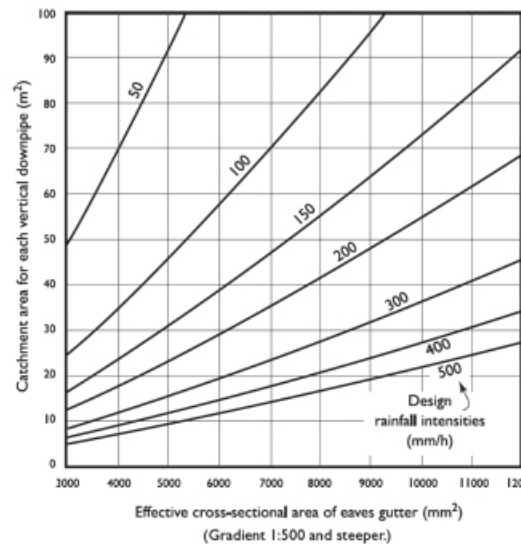

Figure 1 : Determine Catchment Area/ Downpipe (Extrude from AS/NZ 3500 : 2003)
5. Determine "Roof Area per Downpipe" from figure 1
From figure 1, we get catchment area per downpipe is Approximate 60m² or 645sq.ft.